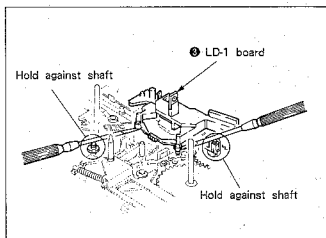

Fig. 7-37.
- 3) Remove stopper washer ① and remove the drive gear B assembly ②.
- 4) Remove the LD-1 board ③. (See Fig. 7-37.)
- 6) Remove the spring ④ and remove B release arm assembly ⑤.
- 8) Remove stopper washer ⑥ and remove the mode output gear ⑦.
- 9) Remove screw ⑧.
- 10) Unsolder the RECOG switch ⑨ in three places, and remove it.
- 11) Disconnect connector ⑩.
- 12) Remove the three screws ⑪, and remove the control motor cover assembly ⑫.
- 13) Push the T.S release arm assembly ⑬ in the direction of arrow ⑭ while holding up the M-SW assembly ⑭. And then, push the T main brake assembly ⑮ in the direction of arrow ⑯ and remove the M-SW assembly ⑭.
- 14) Remove solder ⑰ and remove the control motor ⑱.